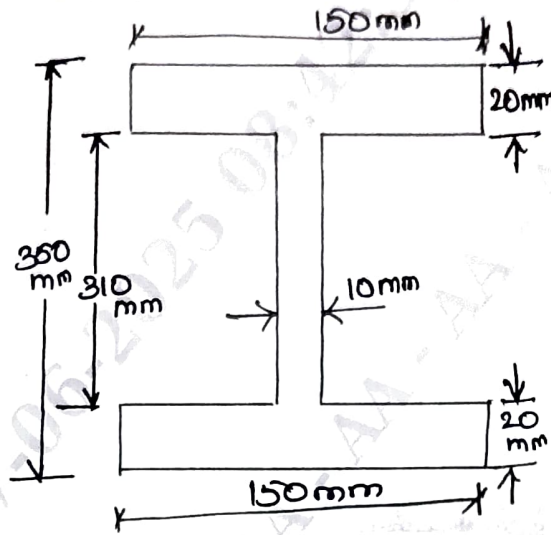

Fig Q9(c)
- c. An I-section beam $350 \text{ mm} \times 150 \text{ mm}$ has a web thickness of 10 mm and a flange thickness of 20 mm as shown in Fig Q9(c). If the shear stress developed in the I-section.